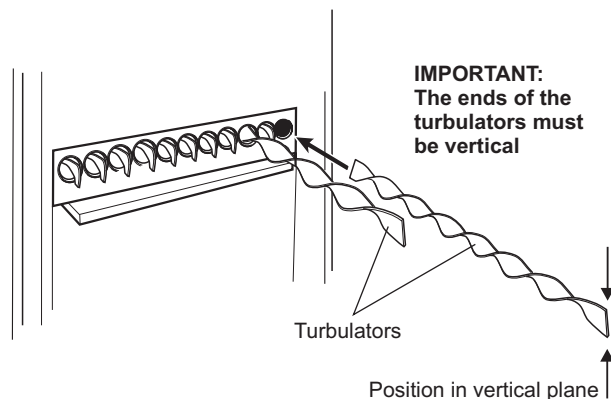

Fig. 24 - Turbulators
- 7 Pull out the spiral turbulators from the heat exchanger tubes. See Fig. 24.